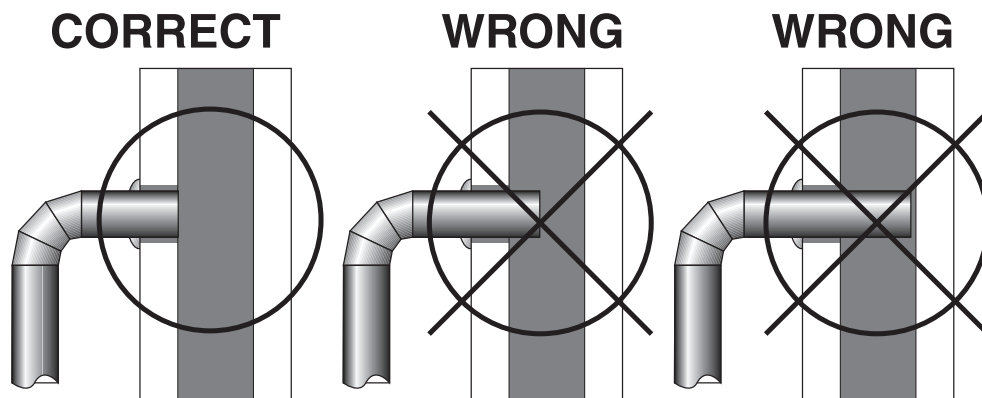

Figure 8 – Stovepipe/Flue Connections
1. The crimped end of the stovepipe fits inside the stove flue collar. Secure with three (3) equally spaced sheet metal screws. The first section of connector pipe must be single walled to properly attach to the stove collar. Install additional pipe and elbow with the crimped end towards the stove. This will allow any condensation in the flue to run back into the firebox.
4. The pipe cannot extend into the chimney flue (figure 8).
5. Secure all pipe/elbow sections with three (3) equally spaced sheet metal screws at each joint to make the piping rigid. **DO NOT CONNECT THIS STOVE TO ANY AIR DISTRIBUTION DUCT OR SYSTEM.**
6. It is recommended that no more than two (2) 90° bends be used in the stovepipe installation. The use of more than two 90° bends may decrease the amount of draw and possibly cause smoke spillage. Where possible, use only corrugated (non adjustable) elbows. These provide a better seal.
7. The connector pipe must not pass through an attic or roof space, trusses, closet, or any concealed space, floor, ceiling, wall, or combustible construction. (See Chimney Connector Systems & Clearances, page 13.) A manufactured chimney system listed to UL 103 HT (US)/ULC-S629 (CDN) must be used from the first penetration of ceiling or wall to the chimney cap. Where passage through a wall or partition of combustible construction is desired, the installation shall conform to NFPA 211 (USA) or CAN/CSA-B365 (Canada).